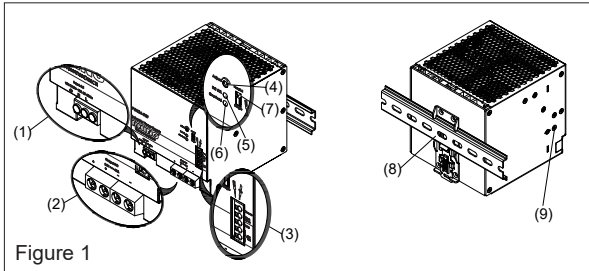

Figure 1
2. Device description (Fig. 1)
4.1. Input connection (Fig. 1, Fig. 6)
For AC input connections, use L, N and PE connections on the input terminal connector (see Fig. 1 (1)) to establish the 100-240 VAC connection. Fig. 6 shows the connection to the various network types. The unit is protected with internal fuse (not replaceable) at L pin and it has been tested and approved on 30A (UL) and 32A (IEC) branch circuits without additional protection device. An external protection device is only required if the supplying branch has an ampacity greater than above. Thus, if an external protective device is necessary, or, utilized, a minimum value of 16A B- or C- (100-120 VAC) and 10A B- or C- (230 VAC) characteristic breaker should be used.
4.2. Output Connection (Fig. 1 (2))
Use the "+" and "-" screw connections to establish the 24 VDC connection. The output provides 24 VDC. The output voltage can be adjusted from 24 to 28 VDC on the potentiometer. The green LED DC OK displays correct function of the output (Fig. 1 (4)). The device has a short circuit and overload protection and an overvoltage protection limited to 35 VDC.
5. Single/Parallel selection (Fig. 1 (7))